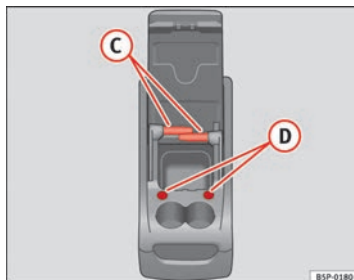

Fig. 114 Mobile storage compartment. Functions
To use the table (C) ⇒ Fig. 114, it must be removed from its compartment in the side of the mobile storage compartment and fitted into slot (D) ⇒ Fig. 114 on the front section of the mobile storage compartment.